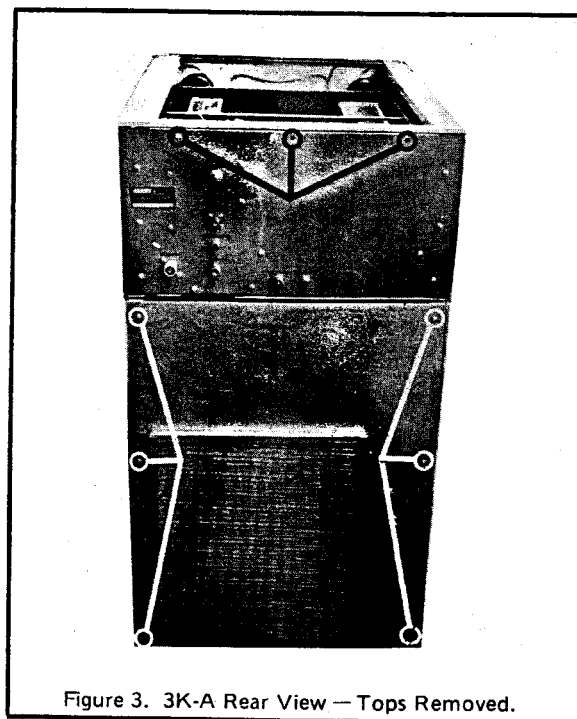

Figure 3. 3K-A Rear View — Tops Removed.
- 4 Remove the rear panel of the power supply by unscrewing the six screws holding it in place (see Figure 3).